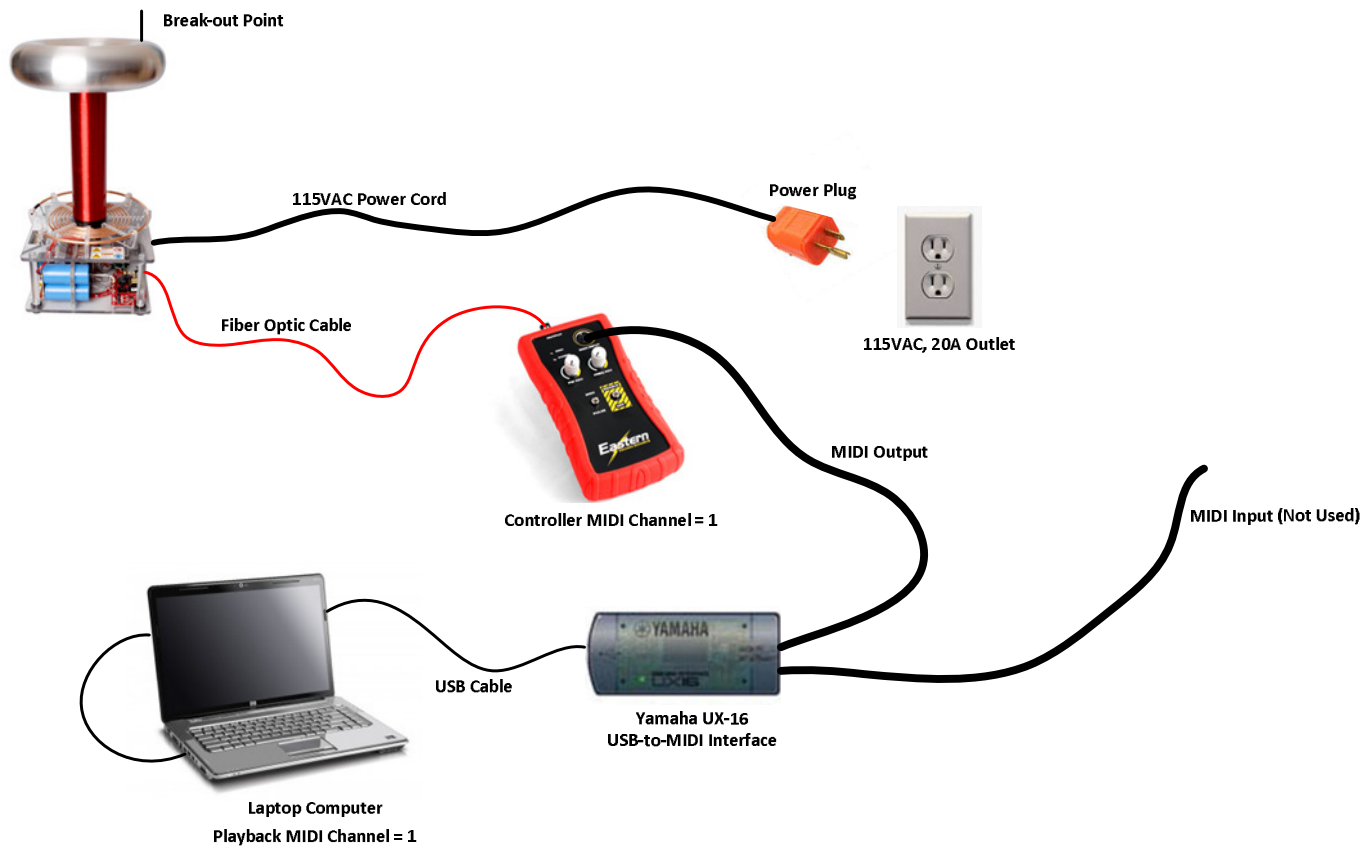

Figure 3 – Plasmasonic DRSSTC Hook-up
- One (1) Plasmasonic System (MIDI Mode operation with Laptop) – Figure 3